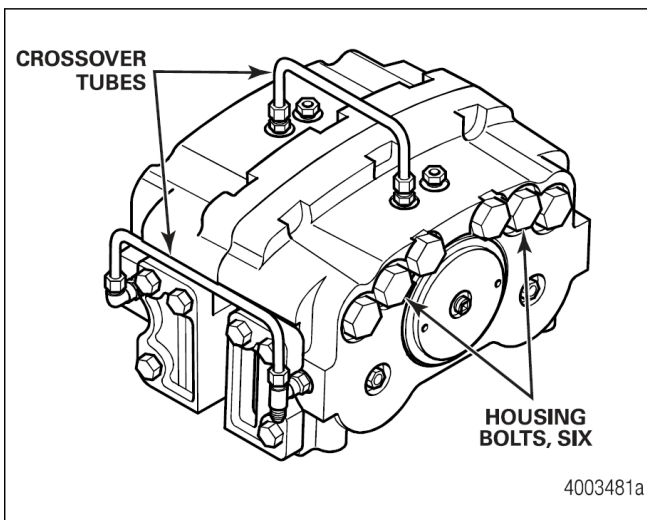

Figure 3.1
4. Remove the service and parking brake crossover tubes from the brake caliper housing. Figure 3.1.